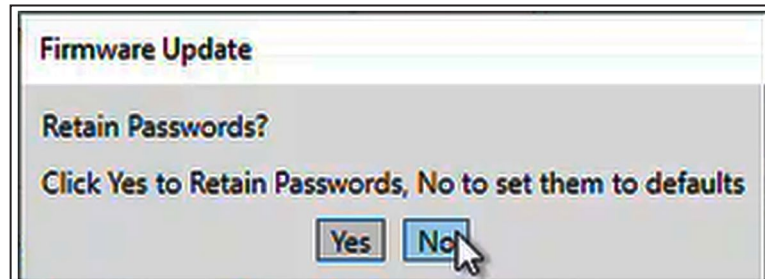

Figure 22. The Firmware Update dialog box requesting password retention.
STEP 10. If the dialog box prompts to retain passwords, click on one of the options to proceed. See Figure 22.